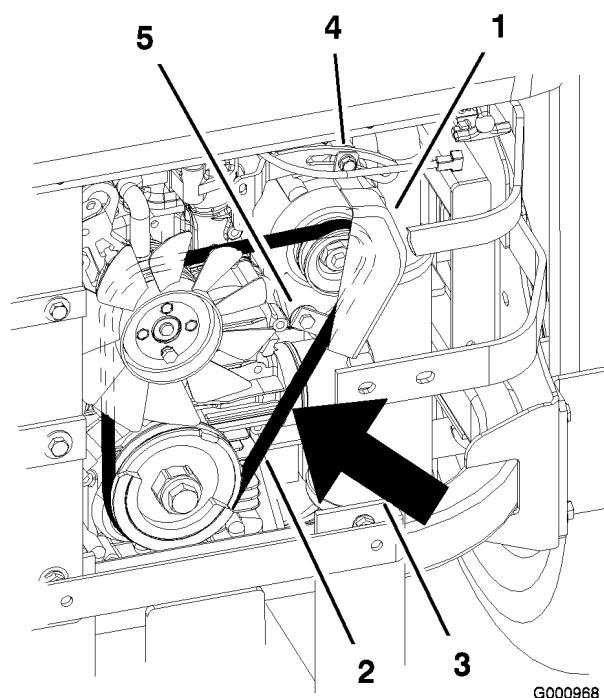

Figure 63
7. Loosen the bottom bolt and remove the upper bolt holding the alternator and cover (Figure 63).
9. Install a new belt around the pulleys and the alternator (Figure 63).
14. Tighten the bottom bolt and install the upper bolt holding the alternator and cover (Figure 63).
2. Adjust the alternator to the outside until there is 1/4 to 11/32 inch (7 to 9 mm) deflection in the belt between the engine and the alternator pulleys with 22.1 lbs of force (10 kgf) (Figure 63).
5. If the deflection is correct, tighten the bottom and upper bolt (Figure 63).